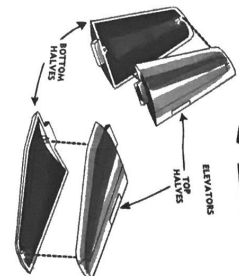

Fig. 1
1. Cement TOP and BOTTOM HALVES of LEFT WING together (see Fig. 1).
20. Snap WINDSHIELD into front opening of FU- SELAGE. See Fig. 1, (4). No cement is neces- sary.